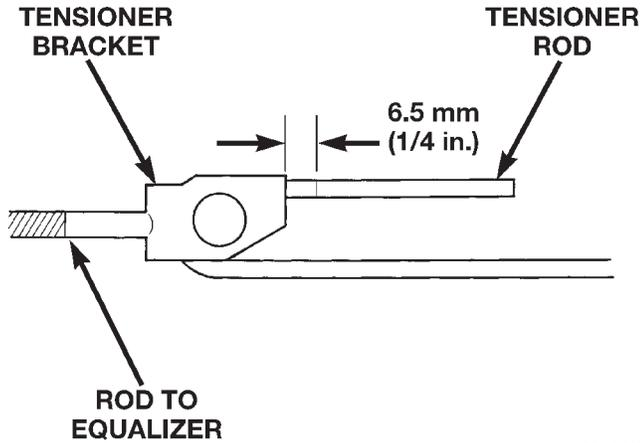

Fig. 83 Tensioner Rod Measurement
- (5) Verify that parking brake cables operate freely and are not binding, or seized. Replace faulty cables, before proceeding.
- (6) Reinstall brake drums and wheel/tire assemblies after brake shoe adjustment is complete.
- (7) Lower vehicle enough for access to parking brake lever. Then **fully** apply parking brakes. Leave brakes applied until adjustment is complete.
- (8) Raise vehicle and mark tensioner rod 6.5 mm (1/4 in.) from tensioner bracket (Fig. 83).
- (9) Tighten adjusting nut at equalizer until mark on tensioner rod moves into alignment with tensioner bracket.
- (10) Lower vehicle until rear wheels are 15-20 cm (6-8 in.) off shop floor.
- (11) Release parking brake lever and verify that rear wheels rotate freely without drag.
- (12) Lower vehicle.